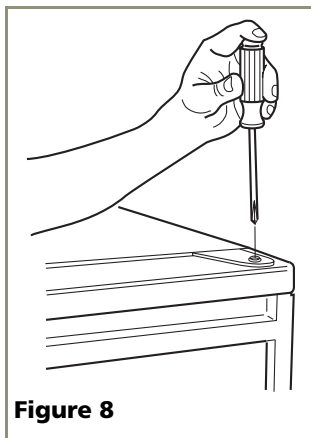

Figure 8
1. Remove top hinge screw pin from door (Phillips screwdriver) (see **Figure 8**). Remove door by tilting forward and lifting off bottom hinge pin.